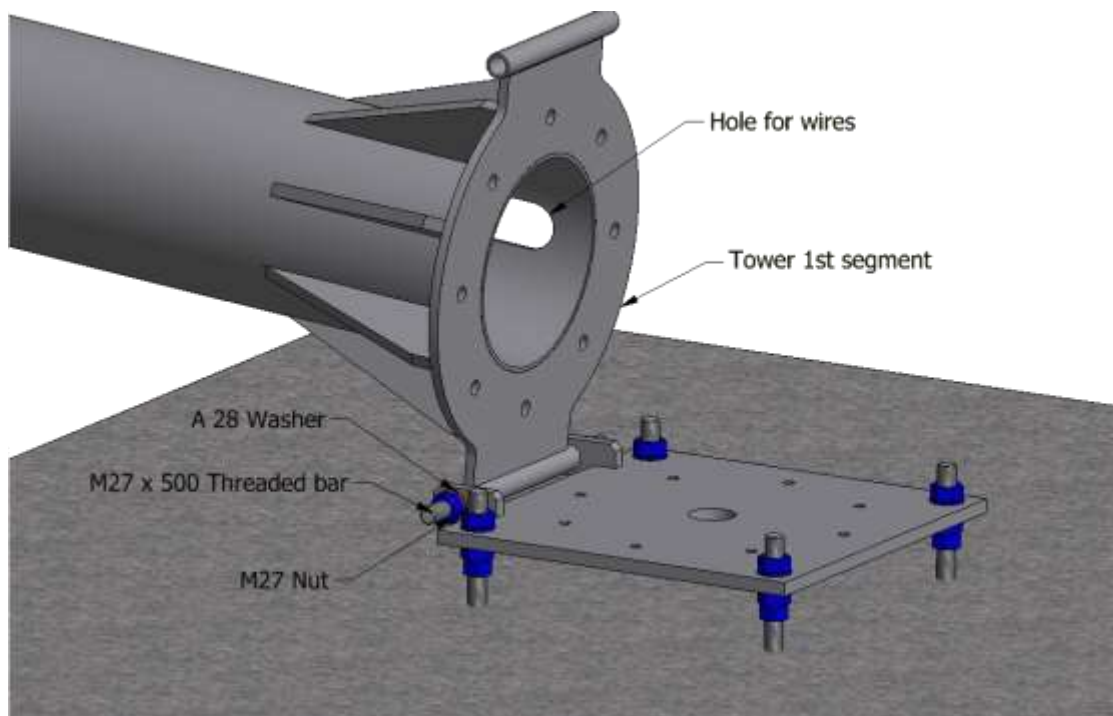

Figure 4 – Placing the 1st segment
1. Place the tower 1st segment hinge between base plate hinges (see Figure 4). The 1st segment weighs about 285 kg, therefore a lifting aid in form of a tractor, fork lifter or a crane is necessary to perform the operation. Use synthetic lifting slings to make contact with the tower 1st segment in order not to damage the zinc layer. **! IMPORTANT:** Make sure you DO NOT place any body part underneath the lifted object while it is being lifted.
3. Run the two wires coming out from the yaw system through the mast and out of the 1st segment hole for wires (see Figure 4). **! TIP:** Use a long rod or a strong blank cable to perform the operation.